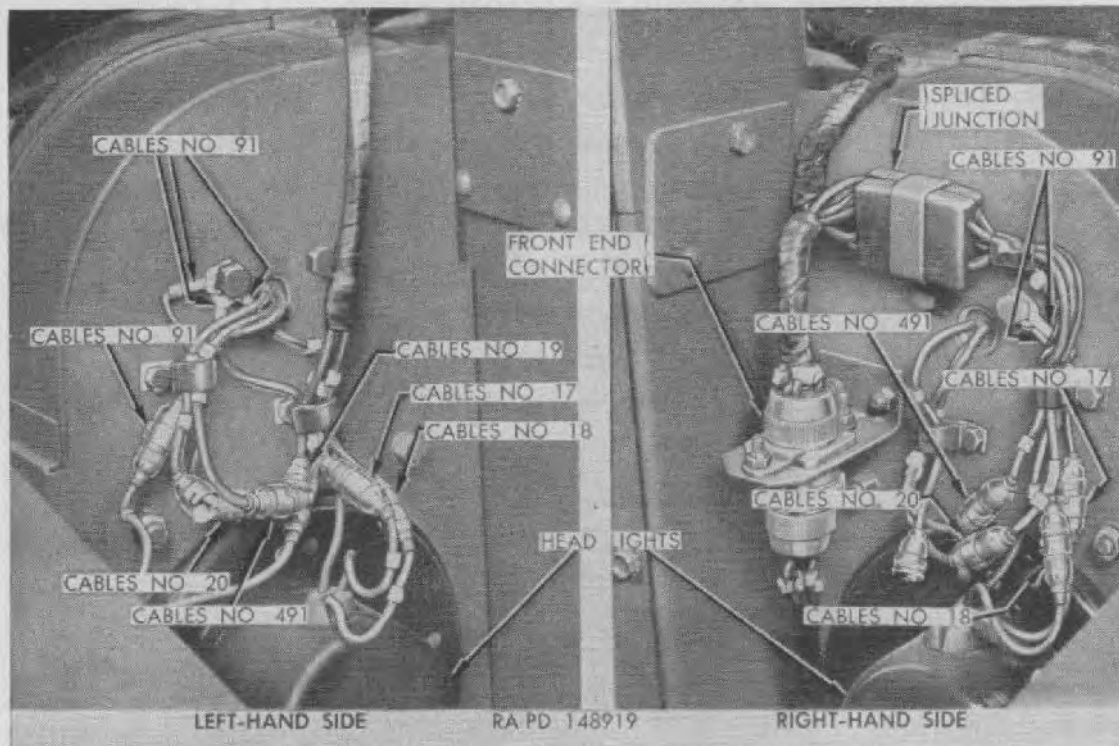
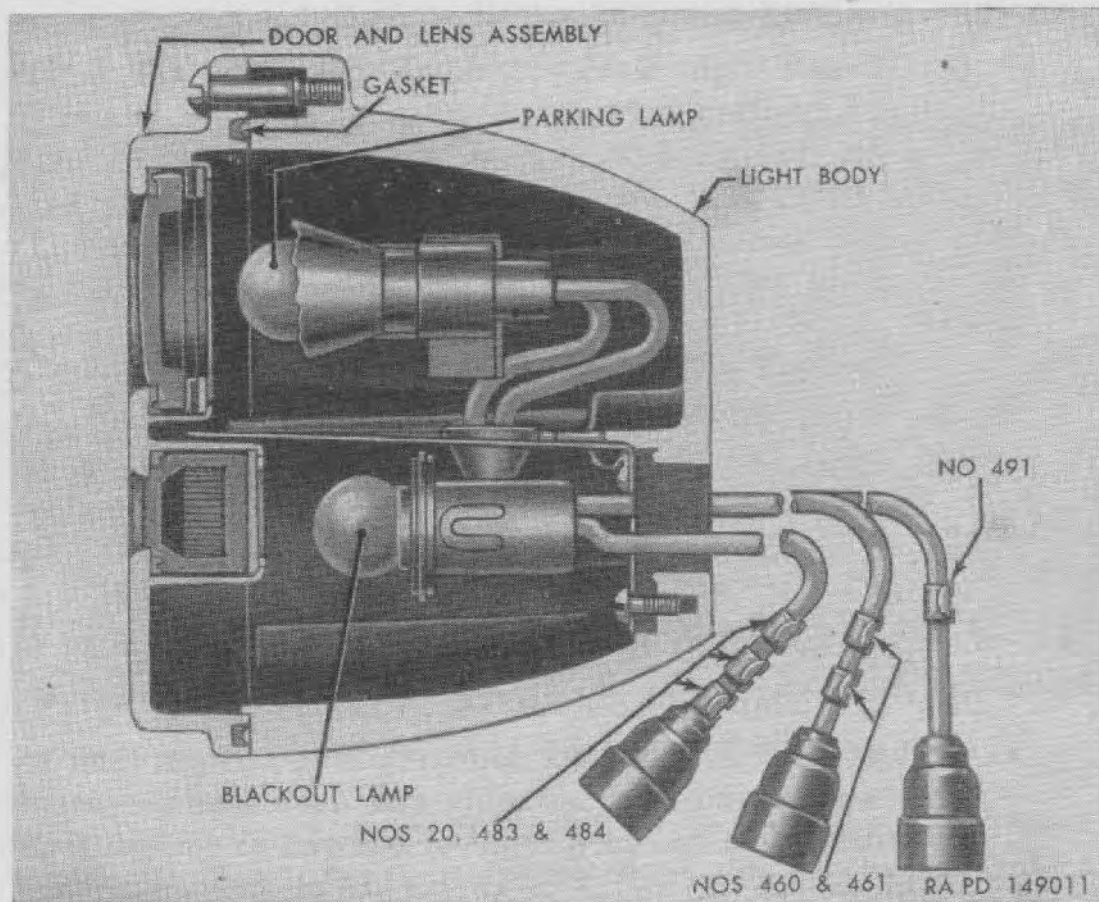

Figure 85. Head light and marker light wiring connections.
Figure 88. Sectional view of front marker light.
(1) Removal.
- (a) Disconnect two head light cables (Nos. 17 and 18) at bayonet type connectors (fig. 85). Remove front
- (d) Attach head light ground cable (No. 91) under head of front marker light mounting cap screw, using toothed lock washer under cap screw head (fig. 85). Connect the other two headlight cables (Nos. 17 and 18) to harness cables having same numbers. Secure cables in clip on radiator side baffle.
- (a) Disconnect light cables from harness cables at rear of left-hand radiator side baffle (cable Nos. 91 and 19, fig. 85). Remove grommet from fender skirt,
- (c) Connect light cables to harness cables at rear of radiator side baffle (fig. 85), making sure numbers on cables are matched.
a. *Door and lamp replacement* (fig. 88).
- (1) *Removal.* Unscrew six door retaining screws; then remove door and lens assembly and door sealing gasket. Press lamp in and turn counterclockwise to remove from socket.
- (2) *Installation.* Press new lamp into socket and turn clockwise to lock in place. Examine door sealing gasket. If not in good condition, place new gasket in groove in door. Install door and lens assembly and attach with six screws.
- (a) Disengage marker light cables from clip on back of radiator side baffle; then disconnect cables from harness at bayonet connectors (fig. 85).
- (b) Connect cable having three tags (Nos. 20, 483, and 484) (fig. 88) to harness cable No. 20 (fig. 85). Connect cable having one tag (No. 491) to harness cable No. 491. Other cable (Nos. 460 and 461) is not used. Secure cables in clip on back of radiator side baffle.